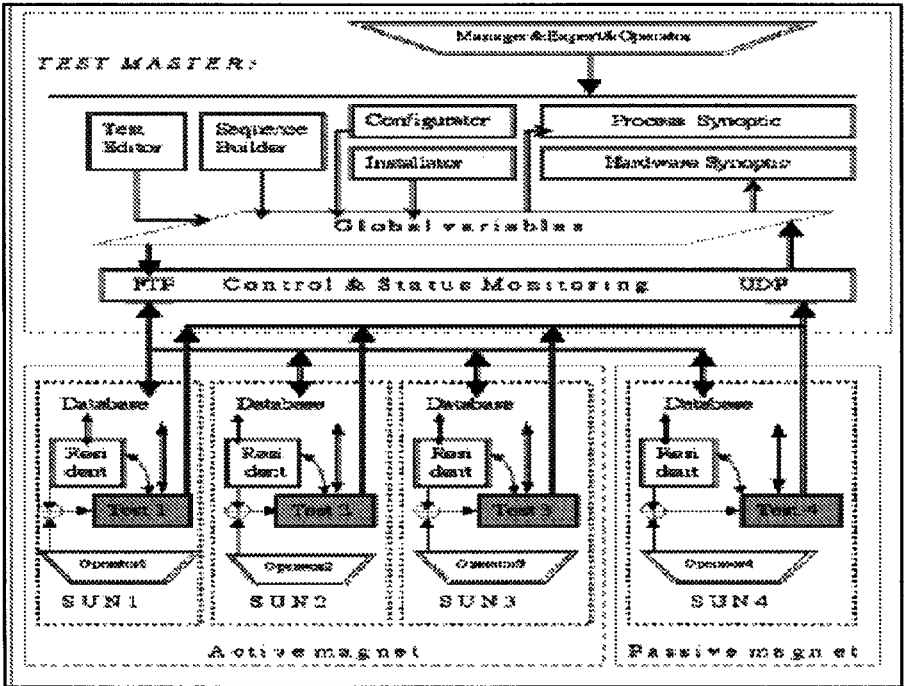

Fig. 18. The Test Master general structure and communications
The overall structure of the Test Master and its different application layers and the communication paths between them is shown in Fig.18.
- **Test Editor:** It is used in Define Test Mode. This program component allows the user to create test files (\*.dgr, \*.tst). These Test files are composed of commands and/or configurations arranged in a sequence to perform a particular measurement in a cluster. Fig.18 shows the hierarchical design of the Test editor.
- **Sequence Builder:** It is used in Build Sequence Mode. This program component allows the user to define the series of measurements, which is called the Sequence of Tests. This is a composition of the tests, which can be executed one by one. Fig.18 shows the hierarchical design of the Sequence editor.
- **Control monitor:** This component receives the information about the user's actions on the Test Master's main panel over several global variable panels and file systems. The **Control Monitor** gets the information, treats it and sends corresponding commands to the applications of the connected *slave workstations*. For this purpose the **Control Monitor** uses the remote system command execution and the FTP functions. The remote system command is used for verifying the *slave workstations* (*Tmping.vi*), for checking and launching in parallel the needed applications (*Tmremps.vi*, *Tmremrun.vi*). The FTP functions are used for sending the command files (\*.cmd), interrupts files (\*.int) and configuration files (\*.cfg) to the remote applications. It is also used for getting the status files (\*.sts) and extracting cycles (*Pscycle.out*) files from the remote applications (*Tmstart.vi*). Fig. 18 shows the hierarchical design of the **Control Monitor**.
**Commander process** will be activated when the **Control monitor** of monitor layer, using FTP, puts new *command file* (\*.cmd) to the application. Then the commands will be executed sequentially from the command file. At the end of the execution of each command, the status information will be written in the *Status file* (\*.sts). The **Control monitor**, using FTP, gets the status files, analyses it and puts in global variables for the **Process Synoptic**. The hierarchical design of the **Commander process** of **Test Master Resident** is shown in Fig.18.